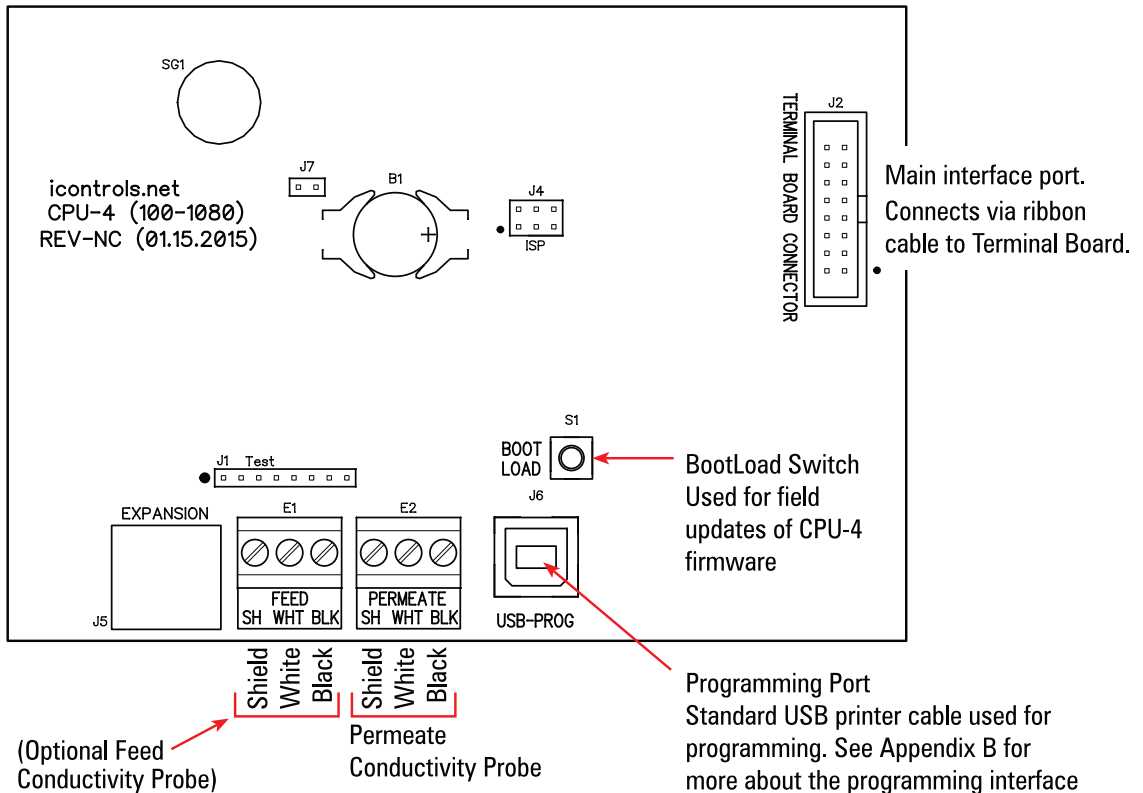

Figure 4 - Controller Detail: Terminal Board, TB-1 (See Fig. 1 for schematic)
- 3 Bring the wires from the peripheral devices into the enclosure and connect them to the appropriate terminals. (See Figure 1, Figure 3 and Figure 4.)
NOTE: YOU MUST REMOVE THE JUMPER WIRE FROM E23 TO E24 if using a single point High Level RO water shut off float switch control and connect the float switch wires to terminals E23 and E24 (See Fig. 4). If you are using a piggyback float plug leave the jumper wire in place.